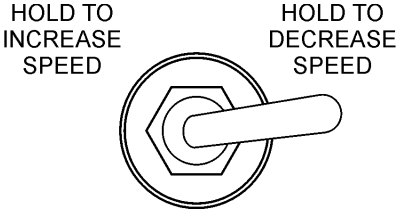

Figure 16. Throttle Control Switch
1. Hold the throttle control switch fully to the RIGHT to set the engine speed to IDLE (Figure 16).